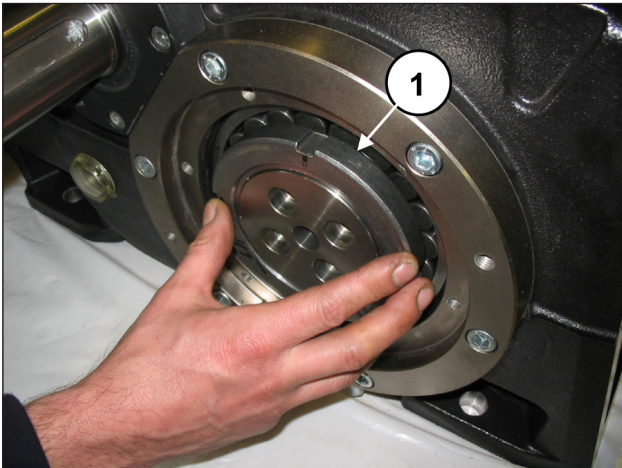
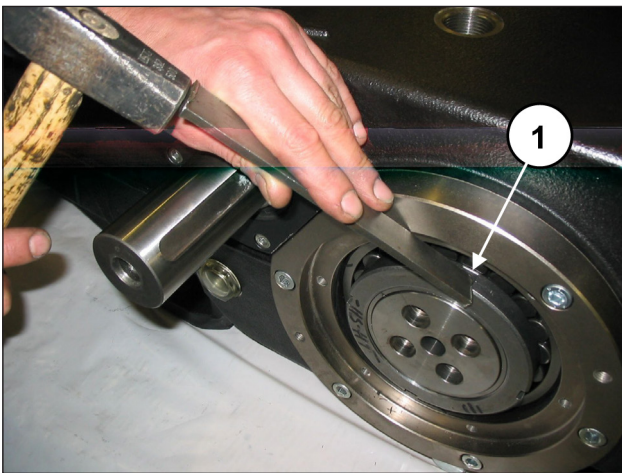

Fig. 16
Fig. 17
On one side, screw a ring nut, type SKF KM20, onto the pressure bush (pos. ①, Fig. 16), and then unblock the bush using an extractor hammer (pos. ①, Fig. 17), but do not remove it.